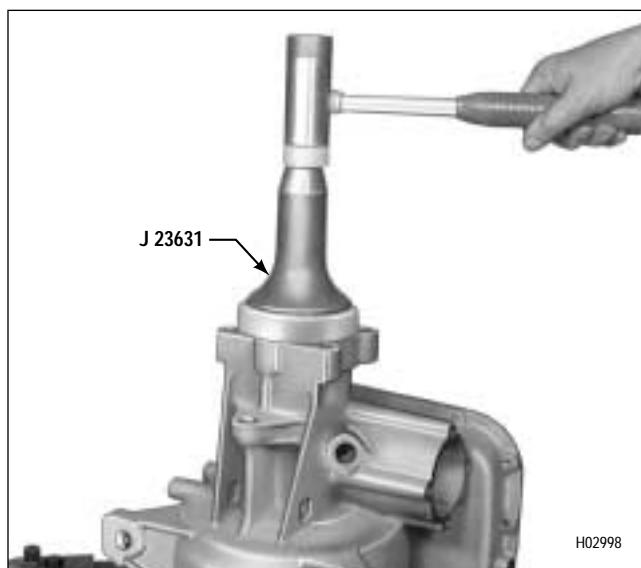

Figure 7–31. Installing Output Shaft Oil Seal
(2) If the anchor bolt is  $3/8$ -16, tighten it to 39–46 lb ft (53–62 N·m); if the anchor bolt is  $7/16$ -20, tighten it to 67–80 lb ft (91–108 N·m) (Figure 7–32).
(3) For earlier models, install the governor check valve ball into the channel in the transmission housing (Figure 7–32).